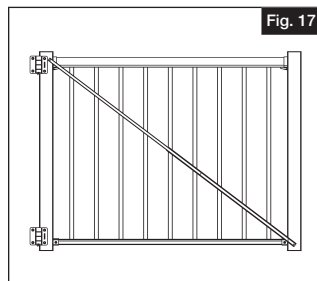

Fig. 17
- On one side of gate, extend the first brace across gate to the uprights, noting one side will be adjacent to hinge (Fig. 17).